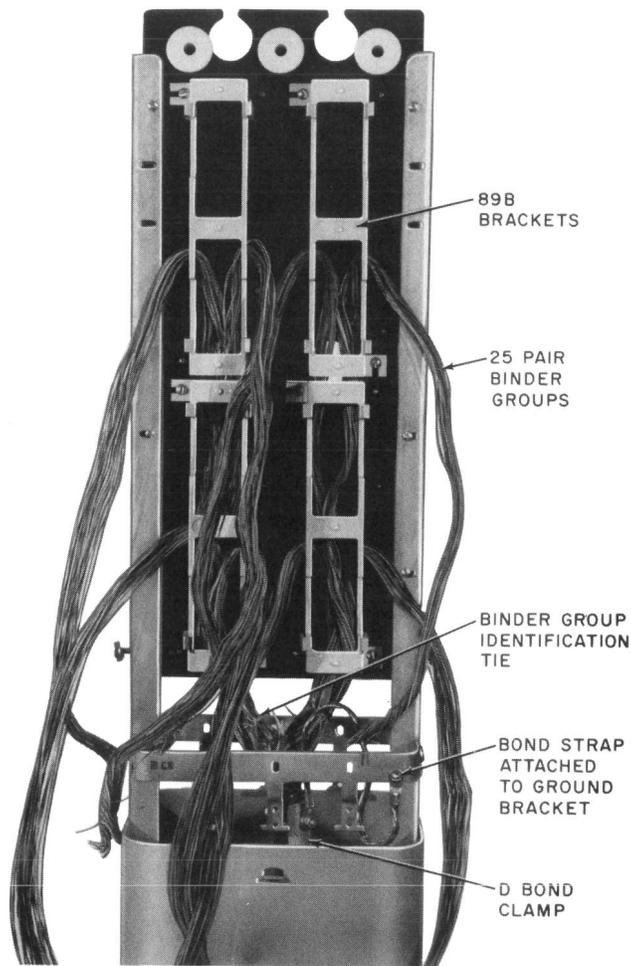

Fig. 22—Cable Prepared and 25-pair Builder Groups Placed Behind 89B Bracket (LG-10/43)
10.07 Remove the unit binders and place binder group identification ties at the butt of the cables as shown in Fig. 22.